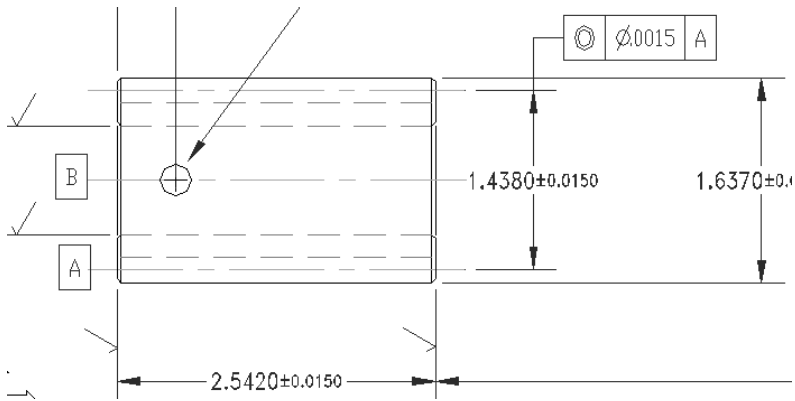

Figure 15-29: Symmetrical tolerances.
- ♦ **Symmetrical** tolerances have the same upper and lower amounts and are shown with a plus/minus sign, as shown in Figure 15-29. The Upper Value text box is active so that you can type in the tolerance amount.